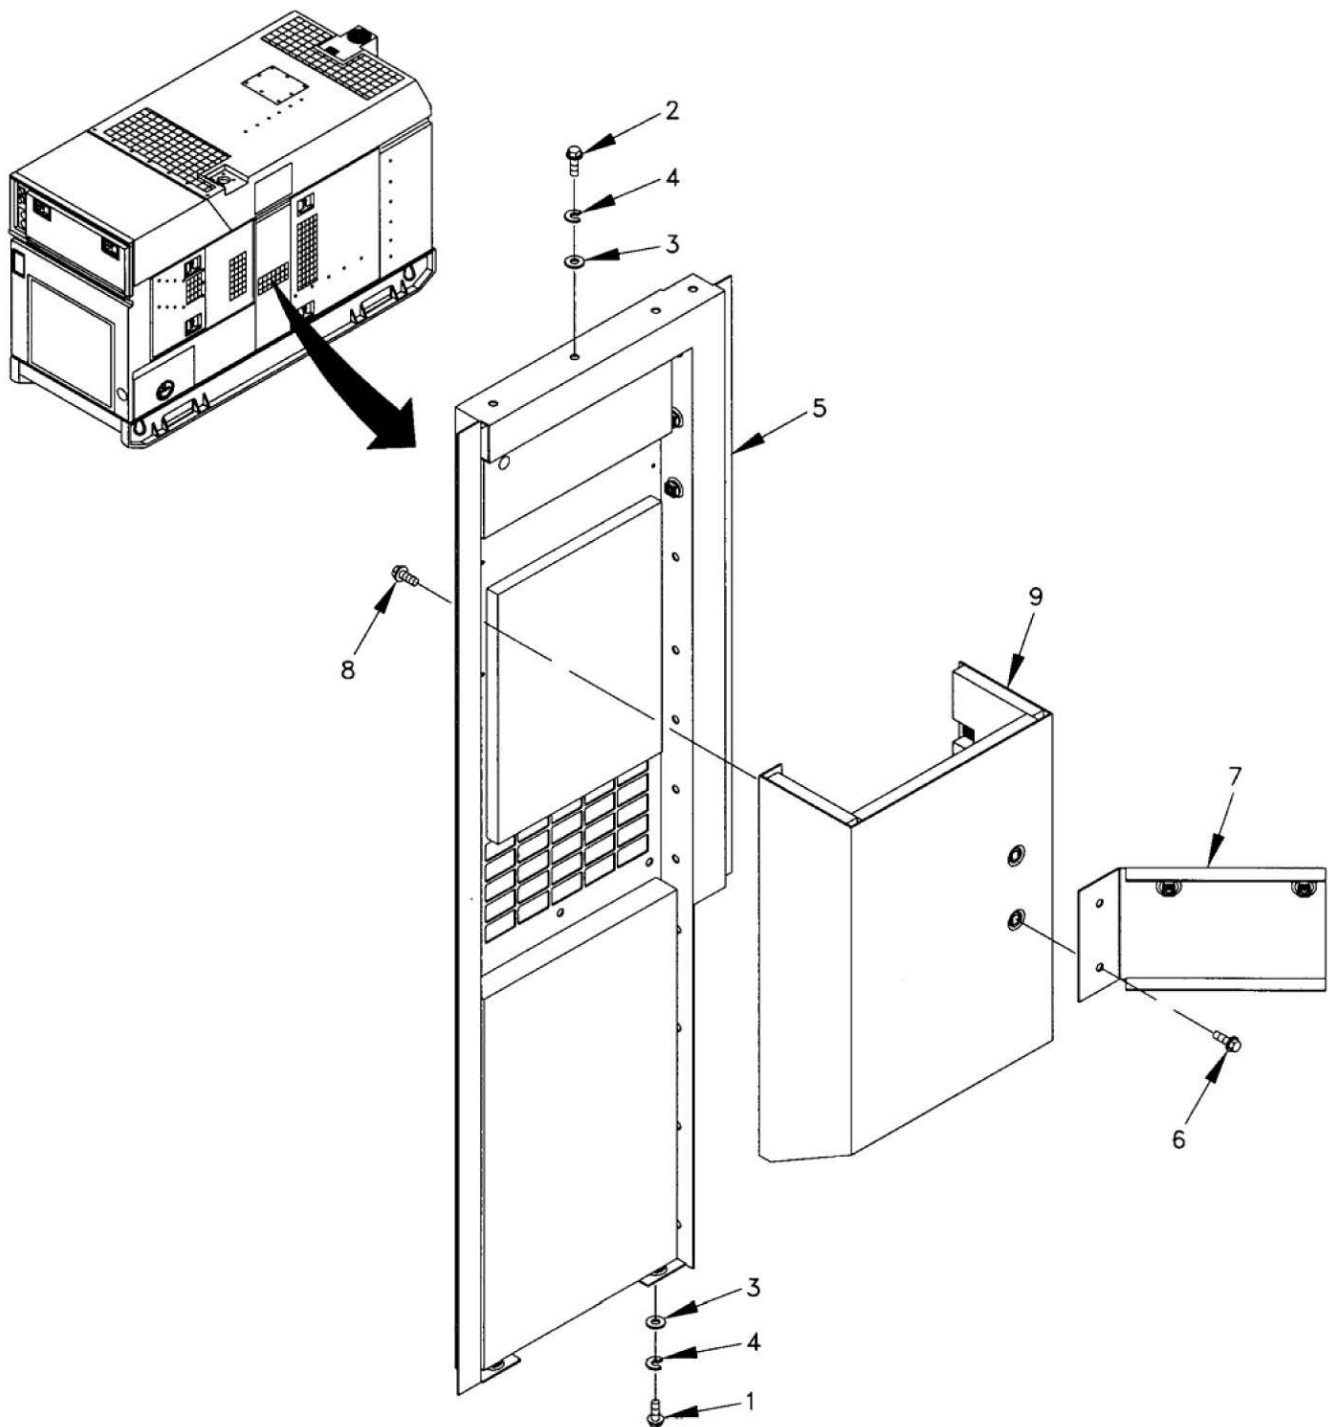

Figure 1. Right Center Panel Assembly.
Remove two screws (Figure 1, Item 1), five screws (Figure 1, Item 2), seven washers (Figure 1, Item 3), seven lock washers (Figure 1, Item 4), and right center panel assembly (Figure 1, Item 5).
1. Remove two screws (Figure 1, Item 6) and coolant recovery bracket (Figure 1, Item 7).
2. Remove 11 screws (Figure 1, Item 8) and duct (Figure 1, Item 9).
2. Install duct (Figure 1, Item 9) and secure with 11 screws (Figure 1, Item 8).
3. Install coolant recovery bracket (Figure 1, Item 7) and secure with two screws (Figure 1, Item 6).
1. Install rear right center panel assembly (Figure 1, Item 5) and secure with seven lock washers (Figure 1, Item 4), seven washers (Figure 1, Item 3), five screws (Figure 1, Item 2), and two screws (Figure 1, Item 1).